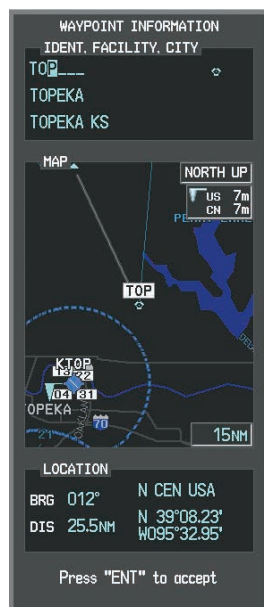

Figure 5-115 Entering V4 Entry Point
- c) Turn the small **FMS** Knob to display the Waypoint Information Window. Enter the desired entry point for V4, Topeka VOR (TOP), as shown in Figure 5-115.